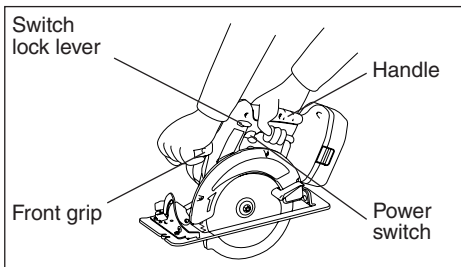

Fig. 4
Hold the wood saw with both hands. (See Fig. 4) Do not attempt to remove cut material when blade is moving.
- Always hold the handle with one hand and the front grip with the other. (See Fig.4) Maintain a firm grip and depress the switch fully.